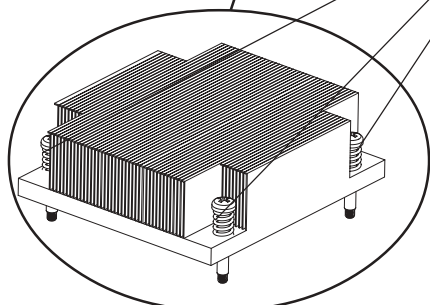

Figure 2
2. Screw in two diagonal screws (ie the #1 and #2 screws) until just snug (do not fully tighten), then do the same with the remaining diagonal screws as shown in Figure 2 and Figure 3.